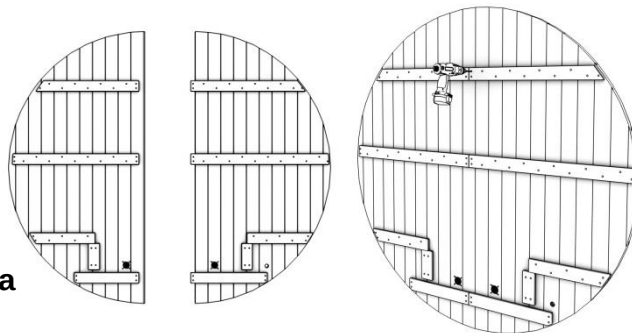

figure 5a
- A. First, locate the two pieces that make up the rear wall panel. Use the provided screws to attach the two rear wall pieces together. Make sure the two sections are flush at the top and bottom. You will also need to connect the connection for the lights. See figure 5a & 5b.